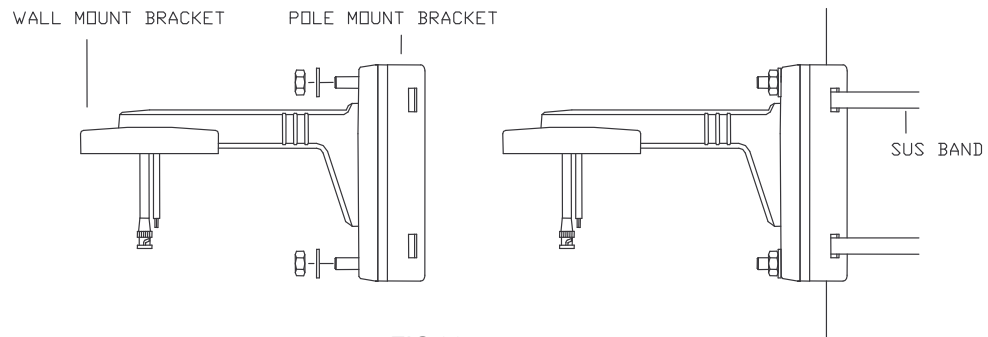
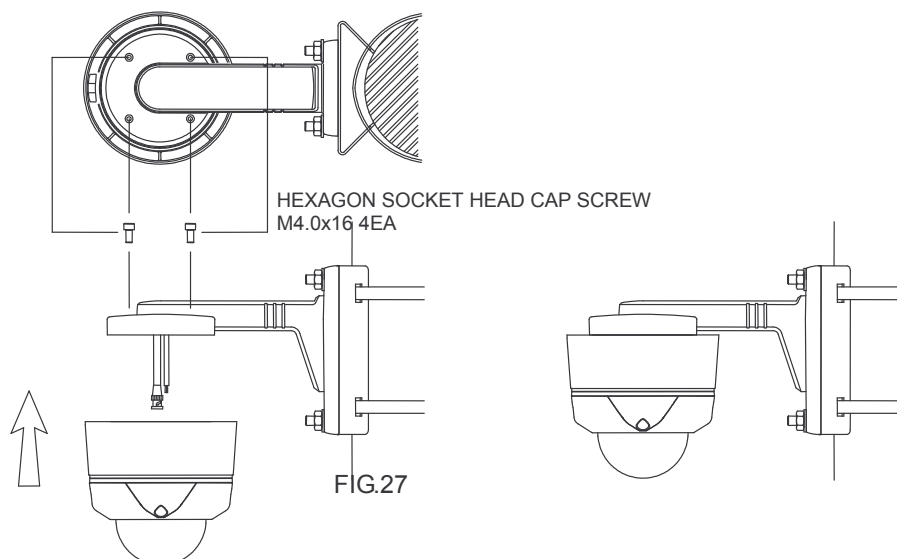

FIG.26
FIG.27
2. Tie the bracket with SUS BAND tightly. (FIG.26)
3. As shown FIG.26 after installing a wall mount bracket, fix a camera on the wall mount bracket. (FIG.27)